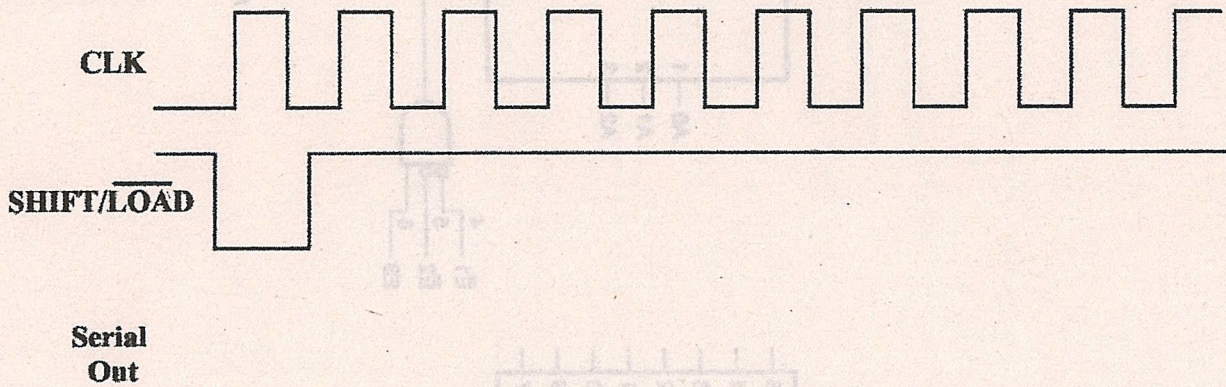

Figure 13
- If $D_0 = 0, D_1 = 0, D_2 = 1, D_3 = 1$, show the data-output waveform for this shift register when the Clock and $SHIFTL/LOAD$ waveforms are applied as in Figure 13 shown in page 12. Assume the register is initially Reset. Use the given space to draw the waveforms in page 11 and attach it to your answer script.